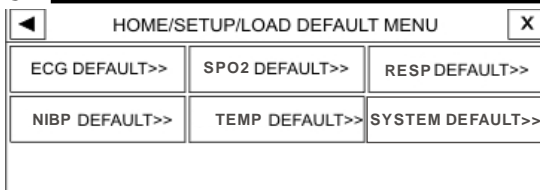
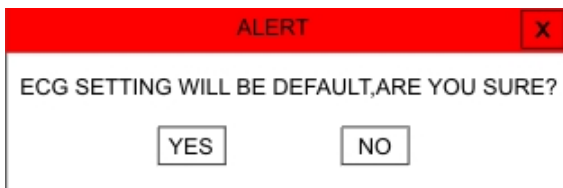

Figure 2-6 SETUP/DEFAULT MENU
Figure 2-7 ALERT
- **LOAD DEFAULT:** Select this item to access SETUP/ DEFAULT MENU (Fig. 2-6) and to load the manufacturer default settings for the desired parameter. (Refer to appendix I for default settings). Because all your previous settings by selecting default mode will be missed, the system asks if you are sure to change setting or not. (Fig. 2-7)